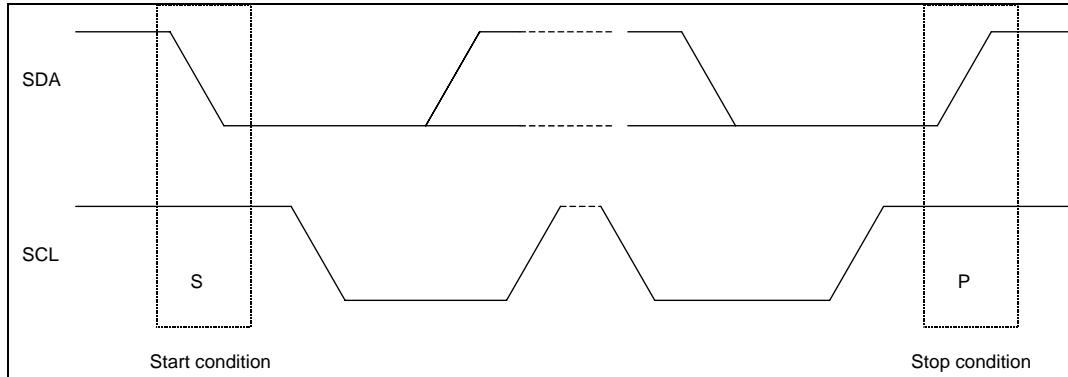

Figure 4: I2C start and stop conditions
Data transfer begins by a falling edge on SDA when SCL is at high level, this is the start condition (S), initiated by the I2C bus master. It is stopped with a rising edge on SDA and SCL at high level, this is the stop condition (P) (see Figure 4: I2C start and stop conditions).